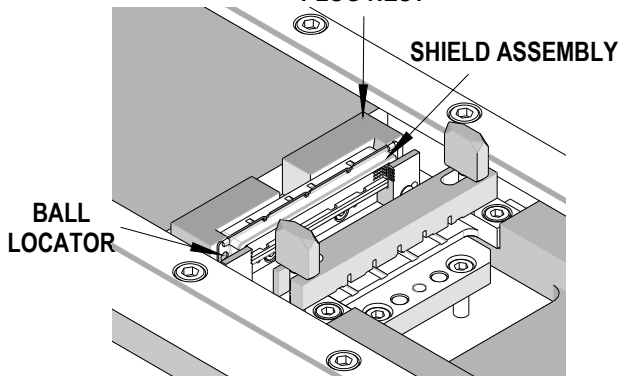

Figure 2-4
2. The screw holes in the shield should also "pop" into the ball locators in the nest. See Figure 2-4.